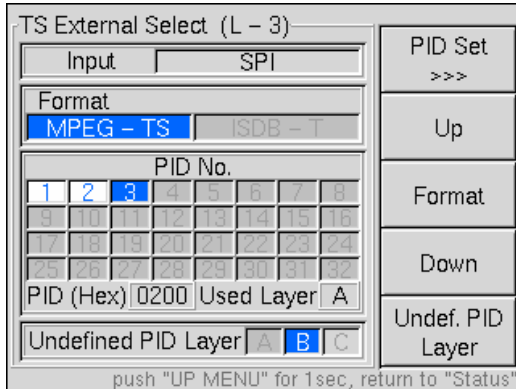

Figure 5-8 External TS setting (for MPEG-2 TS)
- (1) Display the TS External Select (L-3) screen (Figure 5-8). Select the PID number by pressing the Up or Down key.